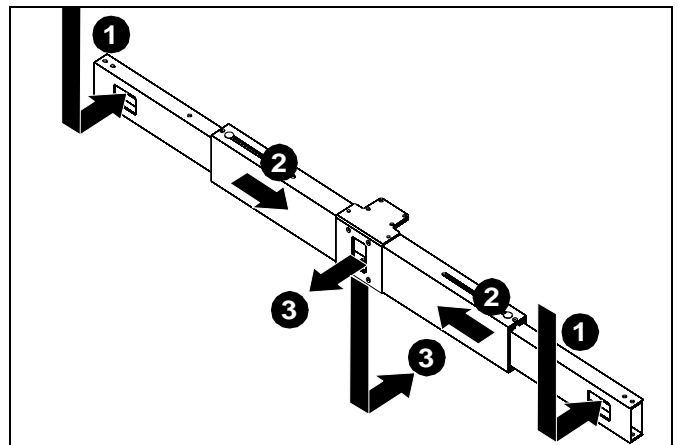

Figure 10
- The display power cords can be run through the front of the extension assembly (A). (See Figure 10)
- The cords can then run through the extension assembly to the center of the assembly. (See Figure 10)
- When the cords are run to the center of the extension assembly, they can either exit out the front, or down through the cart or stand column. (See Figure 10)
- Any accessory power cords can be run through the front and down through the column. (See Figure 10)